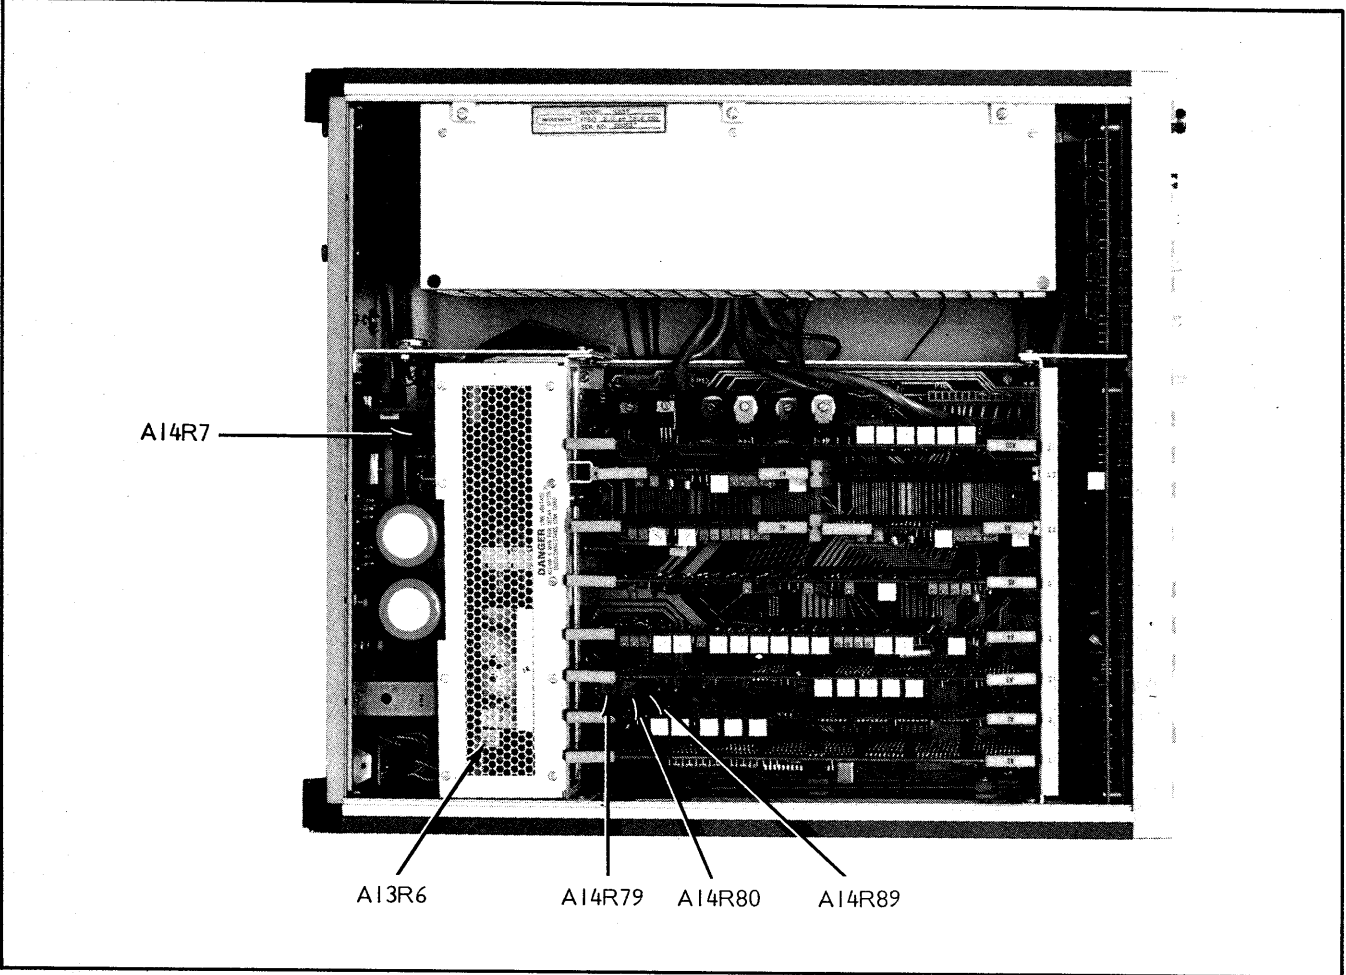

Figure 5-4. A13/A14 Power Supply Adjustments
6. Press POWER to ON, and adjust A13R6 (Figure 5-4) for approximately 5 volts.
10. Press POWER to ON and adjust A13R6 (Figure 5-4) for $+5V \pm 1.0$ mV.
2. Adjust A14R7 (Figure 5-4) for $-38V \pm 100$ mV.